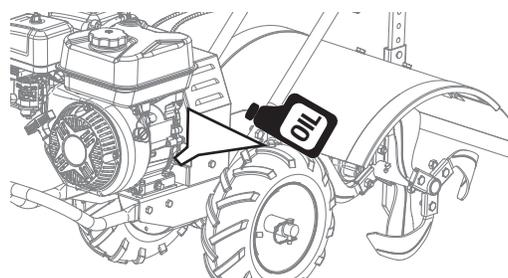

Figure 1-12
- Secure the oil cap and wipe off any excess oil. See Figure 1-12.